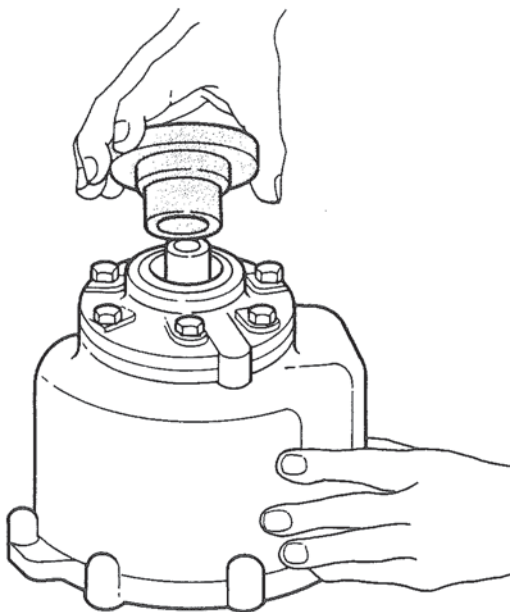

Figure 5. Removing Coupling Assembly.
3. Remove the main shaft nut and coupling. Figure 5.